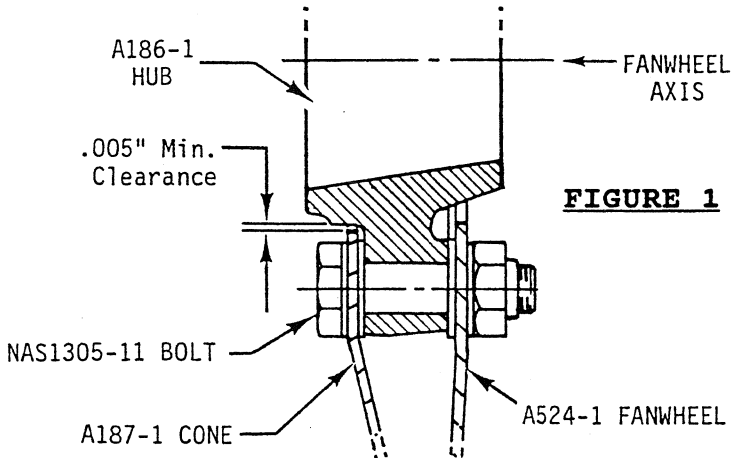

FIGURE 1
- A.3) Inspect for radial clearance between the shoulder of the A186-1 fan hub and the A187 cone using a .005 feeler gage. There must be clearance completely around the hub. Visually inspect for signs of cracks or fretting on the hub, fanwheel and cone; also check for loose bolts. (See Figure 1)